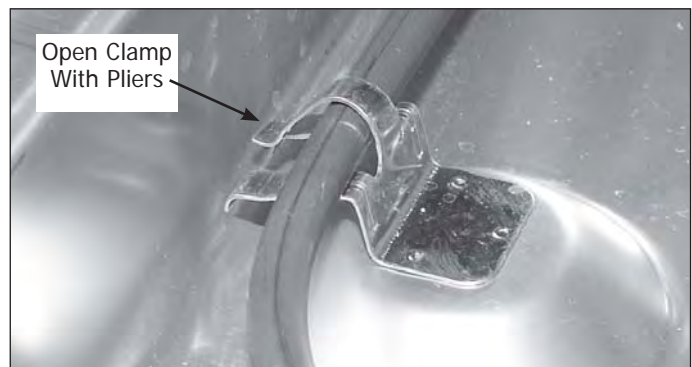

Figure 4-23.
5. Using pliers, loosen heater element from mounting clamps on the left side of tub. (See Figure 4-23)